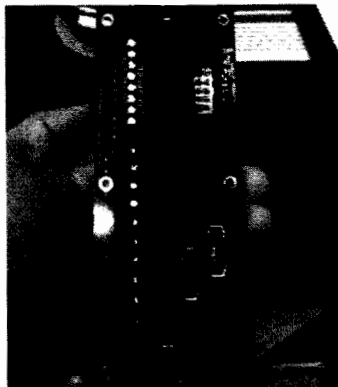

Figure 5 – Field Connection Board
1. Examine new field connection board. Ensure connections are free of packing material or other debris. See Figure 5.